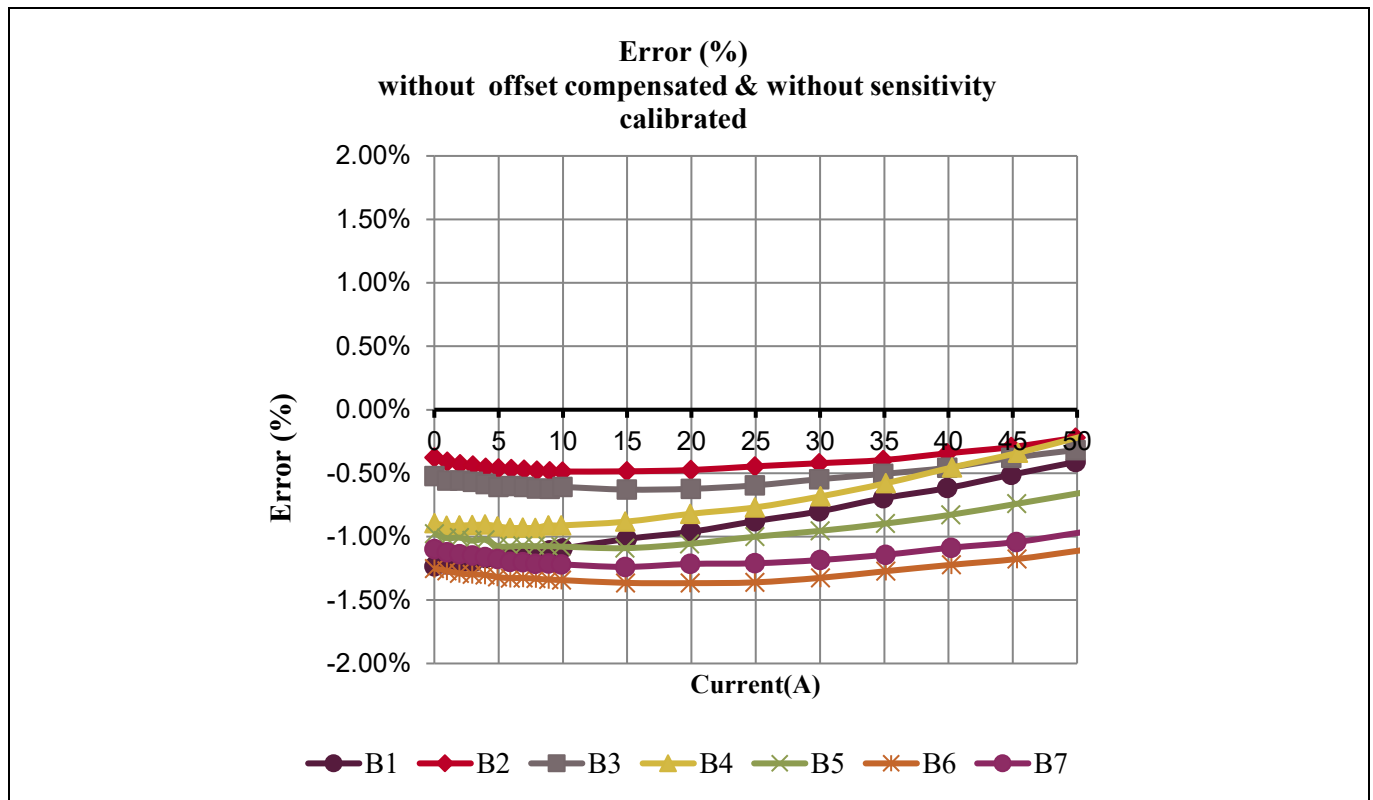
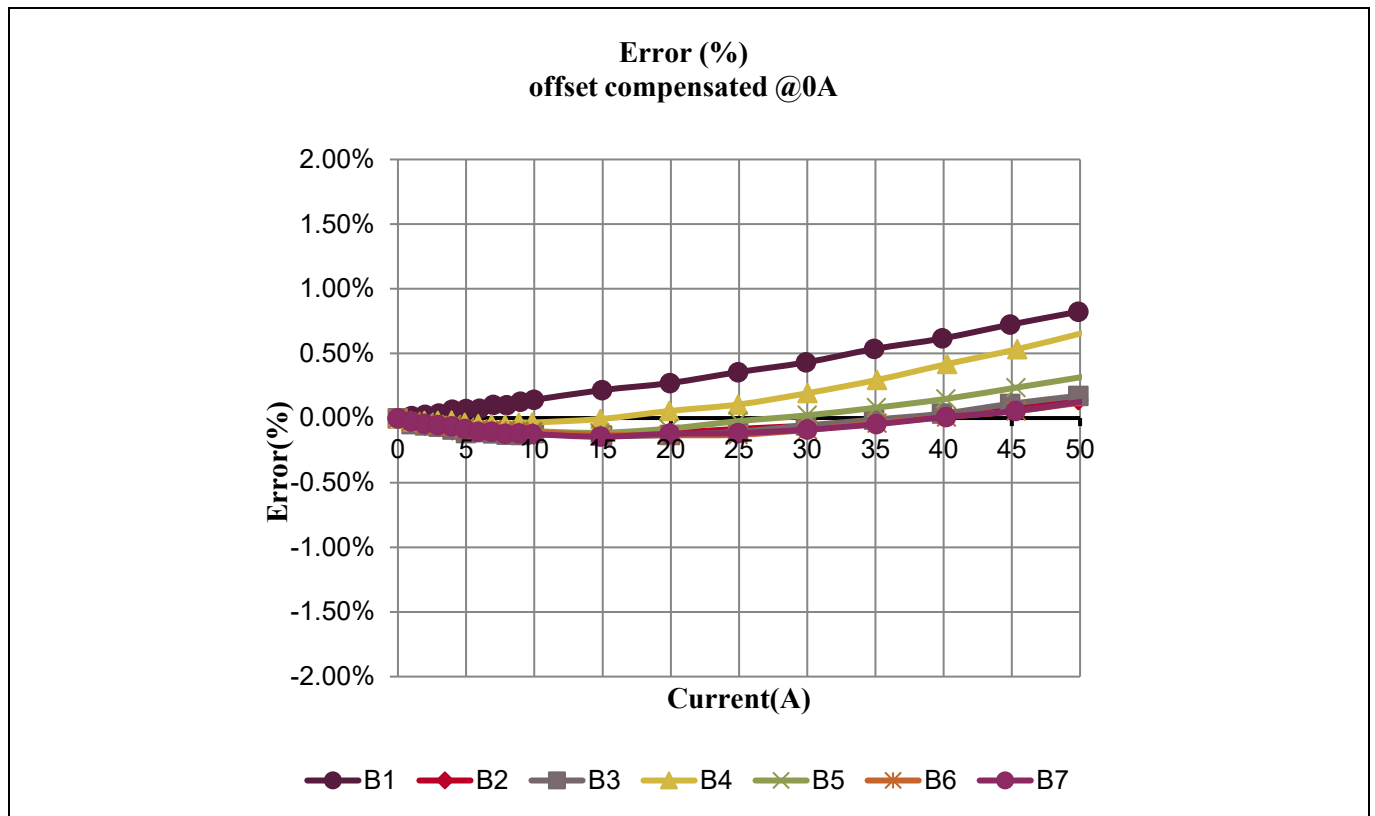
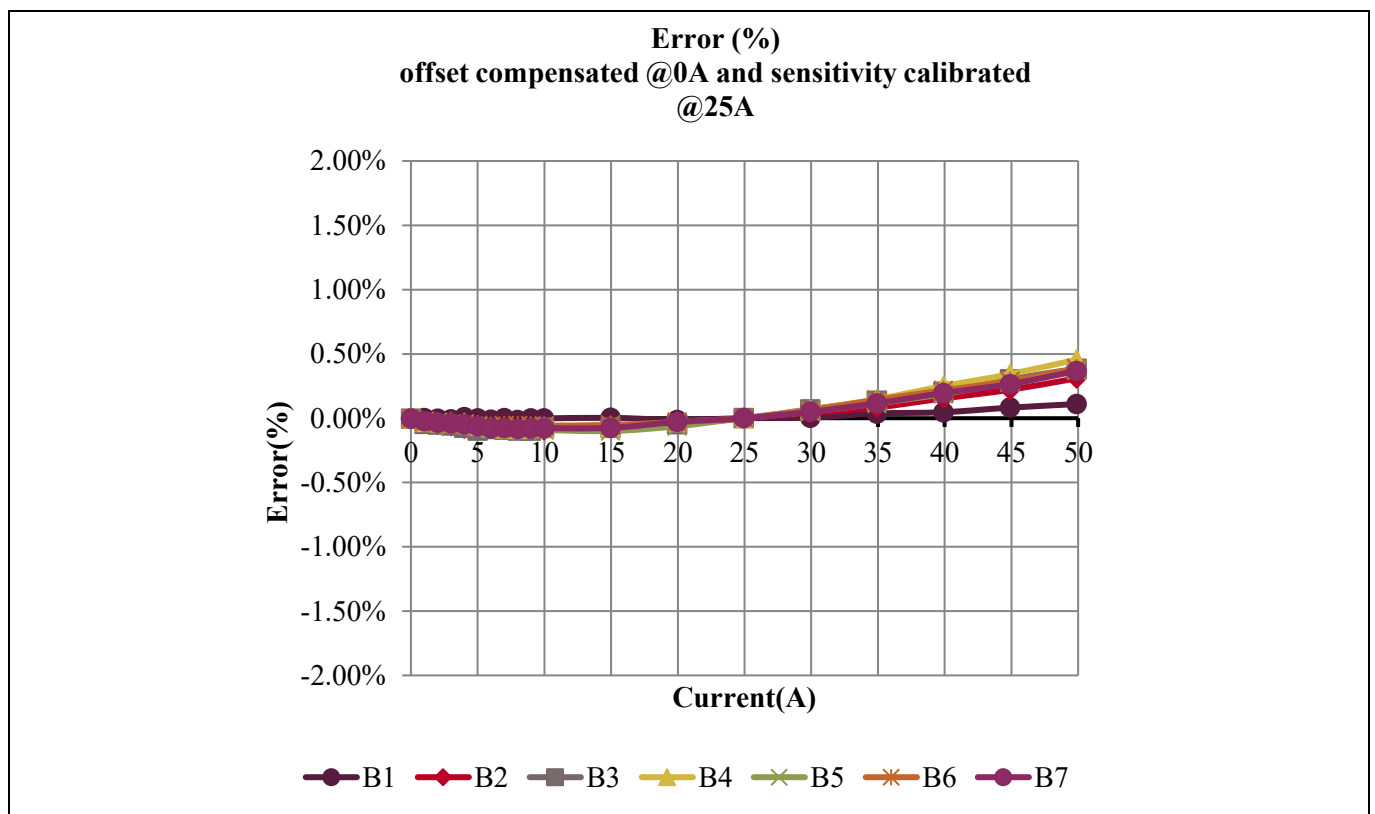

Figure 9 Measurement results of seven boards before offset and sensitivity calibration
Figure 10 Measurement results after offset compensation at 0 A (seven boards)
Figure 11 Measurement results after offset compensation and sensitivity calibration (seven boards)
Figure 9 shows current(A) vs. Error (%) when sensors are uncalibrated. Figure 10 shows data for seven boards after offset calibration when no current flowing through the cable. From the data, the error value converged to zero percent. Figure 11 shows data after offset and sensitivity calibration at 25 A. From the data, values are more closely clustered around the minimum error, less than 0.5%.